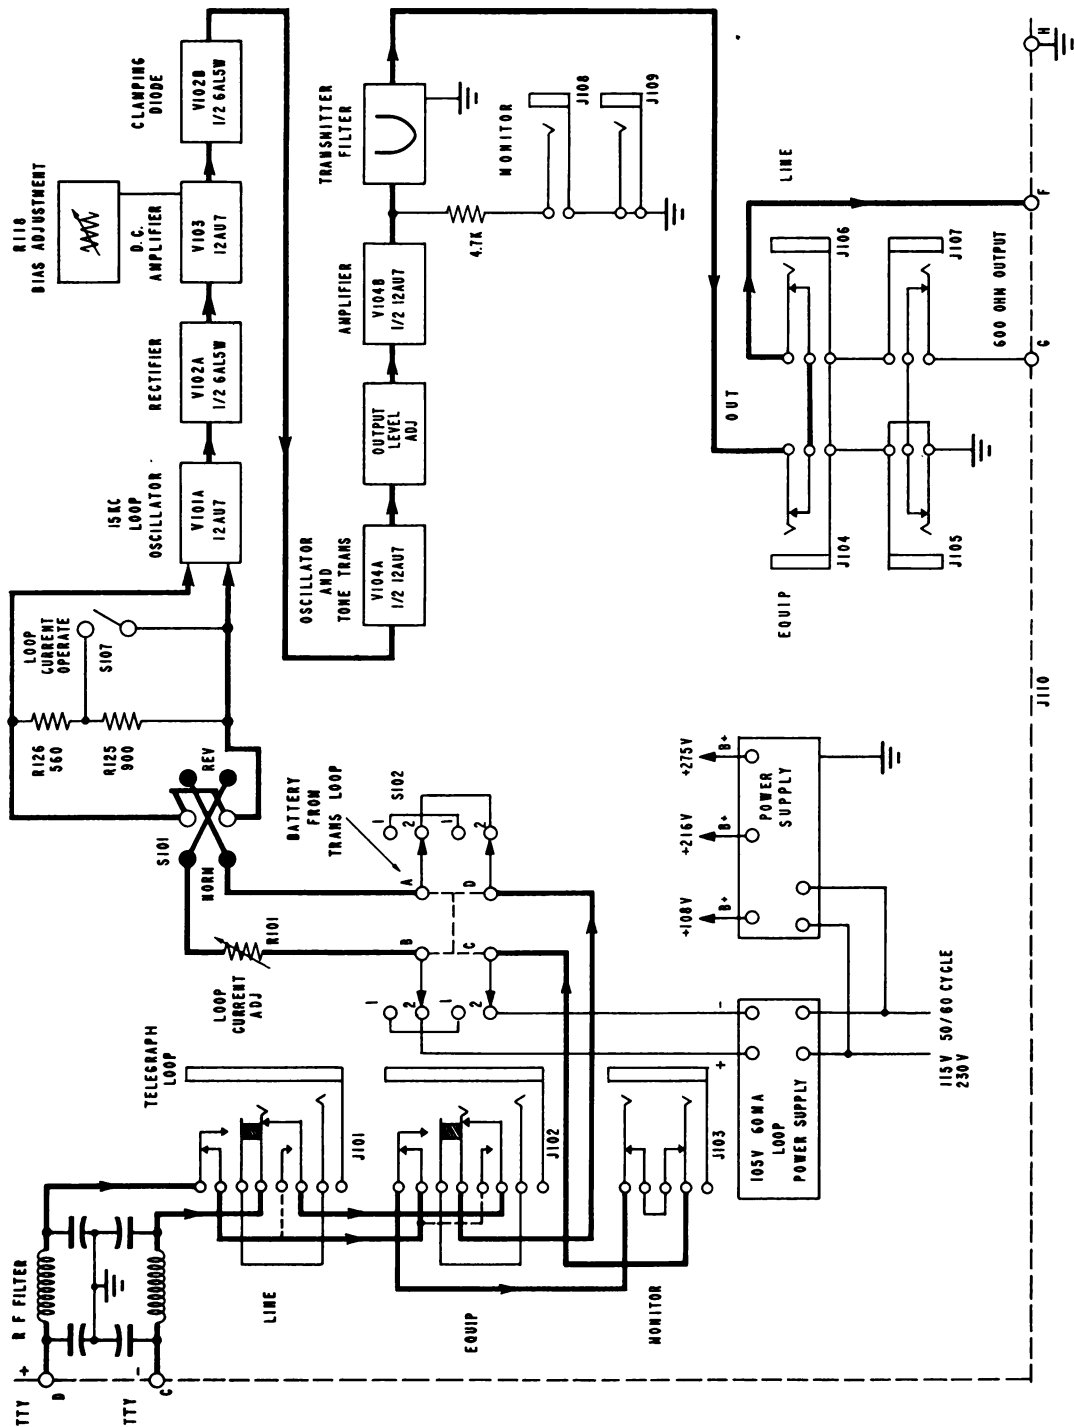

Figure 2-3. Block Diagram of Telegraph Carrier Transmitters T-371/FCC-3 through T-382/FCC-3
a. GENERAL. - Figure 2-3 shows a block diagram of the principal circuits of the telegraph carrier transmitter. The telegraph loop circuit, which is brought into the transmitter through the TELEGRAPH LOOP LINE and TELEGRAPH LOOP EQUIP jacks J101 and J102, has the polarity markings TTY(+) and TTY(-) on terminals D and C, respectively, when the loop is in the BATTERY FROM EQUIP condition. Either an internal loop supply of 120 volts at 0.060 amp or an external